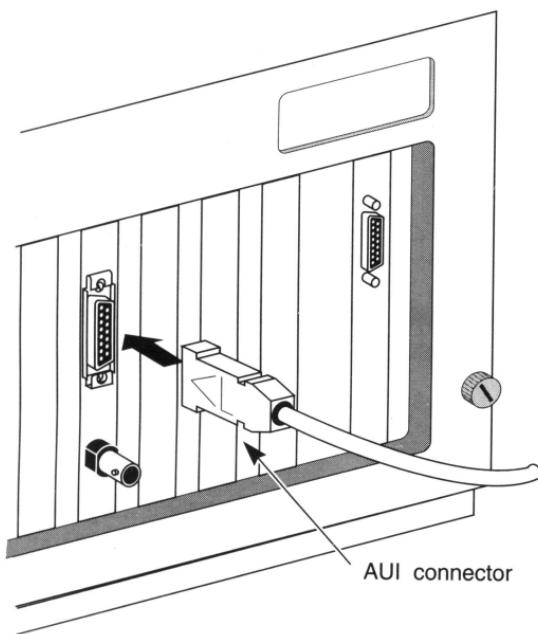

Figure 5-5. Connecting the AUI Cable
2. Connect the AUI cable to the AUI connector on the adapter, as shown in Figure 5-5.